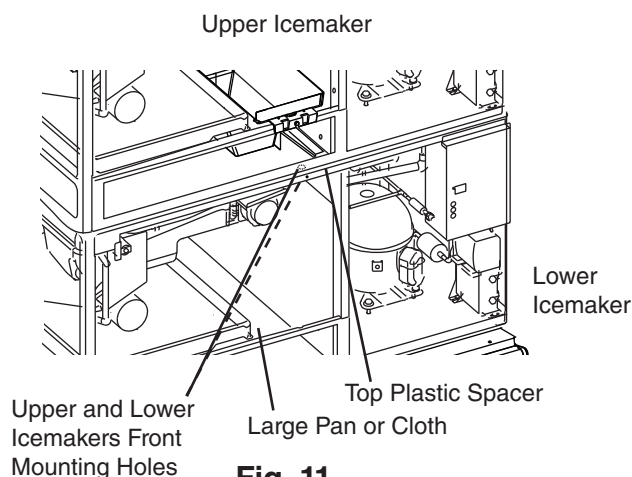
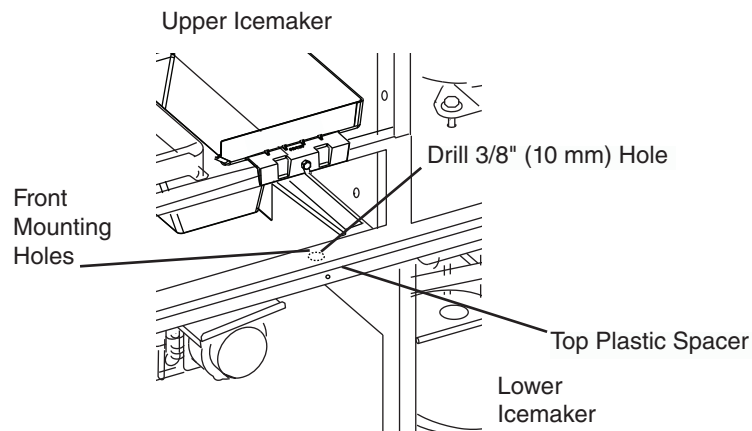

Fig. 11
Fig. 12
- 21) At the front of the icemakers, locate the lower and upper icemakers front mounting holes. See Fig. 11. To prevent plastic shavings from entering the ice storage bin area during drilling, place a large pan or cloth under the icemakers front mounting holes. Using the lower icemakers mounting hole as a guide, drill a 3/8" (10 mm) hole up through the top plastic spacer between the upper and lower icemaker. See Fig. 12.